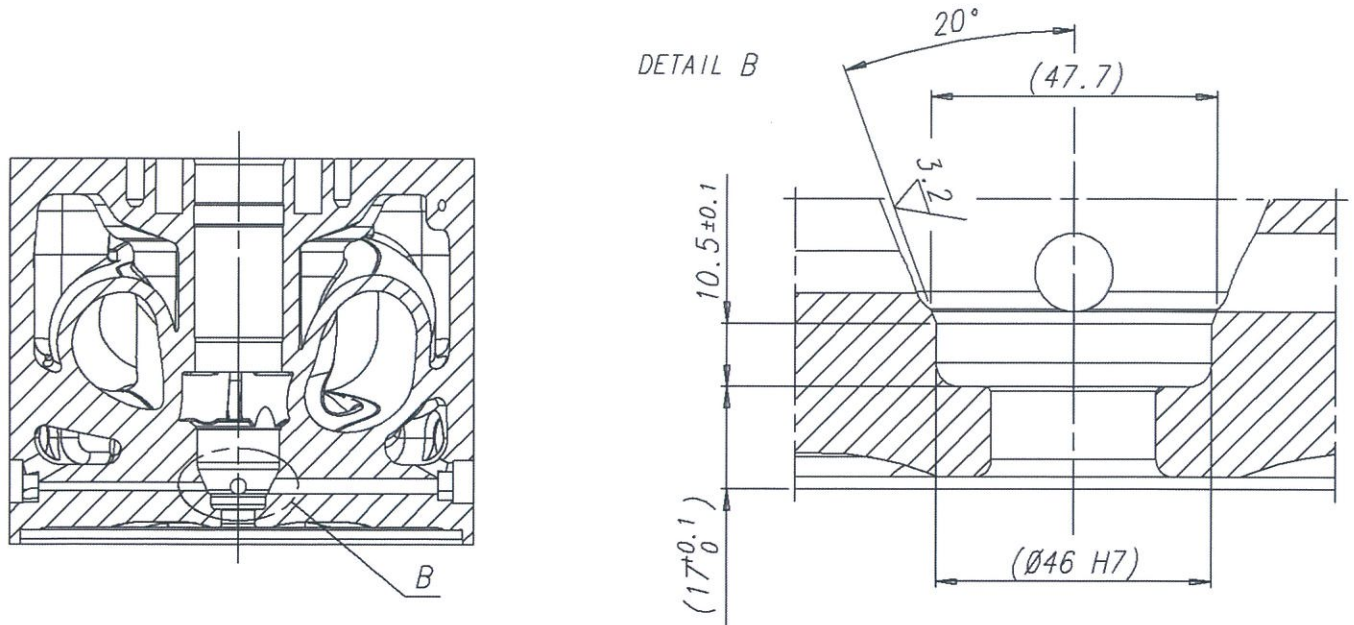

Figure 2: chamfer drawing
- 4) Machine the chamfer on the injector sleeve pocket according to drawing below, see Figure 2.